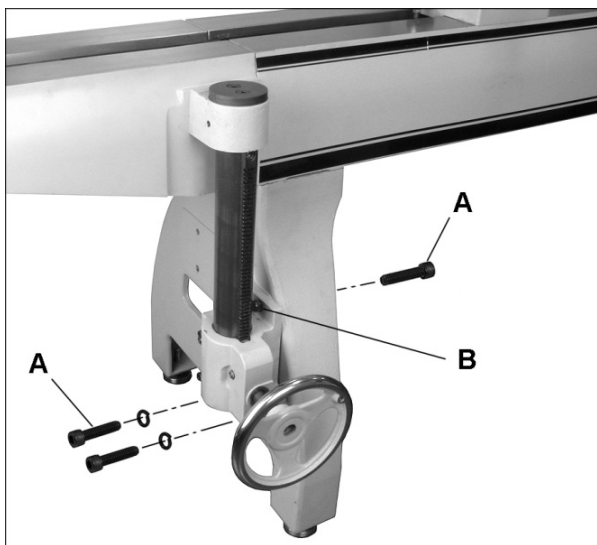

Fig 39
Install elevating system to bed extension with four screws and washers, and to lathe leg with three screws and washers (A, Fig 39). One screw is installed from inside the leg and secured with nylon nut (B).